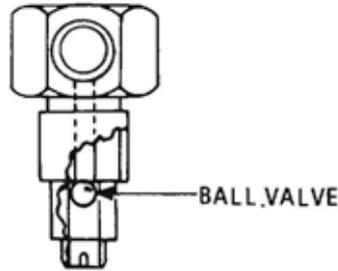

Figure 33 One-way Breather Valve (Fuel Tank)
48. A breather valve is fitted to the top of the fuel tank. This valve allows air to be drawn into the tank to take the place of fuel drawn out by the engine preventing a vacuum build up in the tank, which would otherwise restrict or stop the flow of fuel to the engine. The breather valve incorporates a spring-loaded ball (Figure 33), which acts as a one-way valve, allowing air to flow into the tank, but preventing fuel flowing out. A hex head drain plug is located in the bottom of the fuel tank, allowing water and other impurities to be drained from the tank without having to remove the tank (Figure 31).